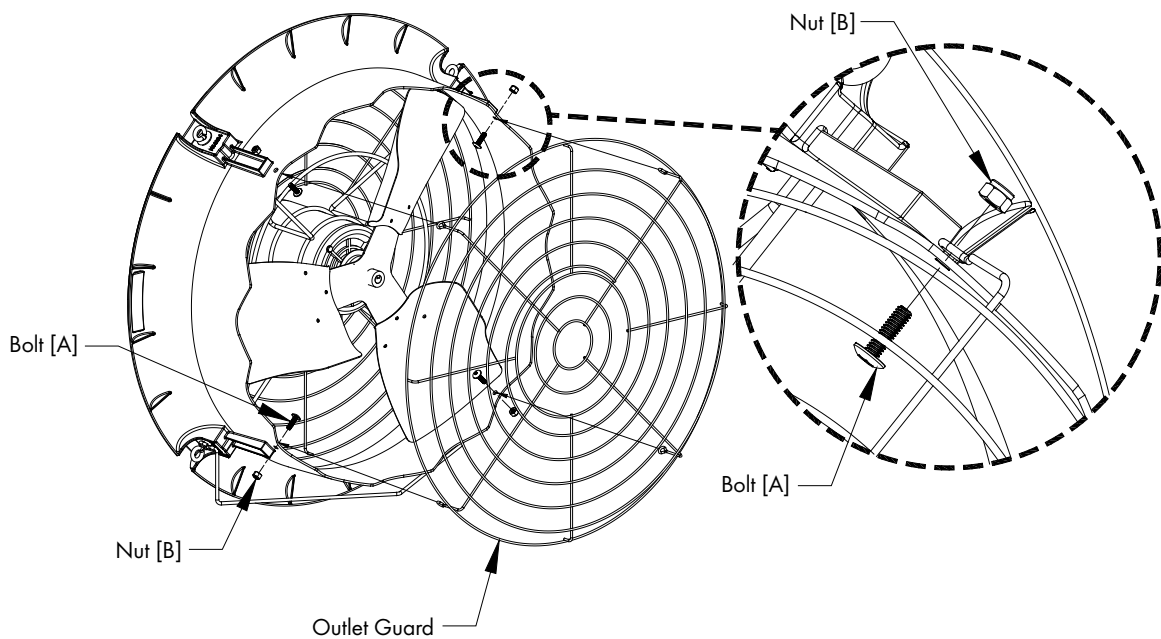

Figure 4
The Outlet Guard is the one with the small inner hole. With the eyelets on the guard pointing toward the fan, align the eyelets with the holes in orifice on the outside of the fan, fasten using (4) Bolts [A] and Nuts [B]. The head of the bolt goes on the inside of the orifice and the nut goes on the outside. See Figure 4.